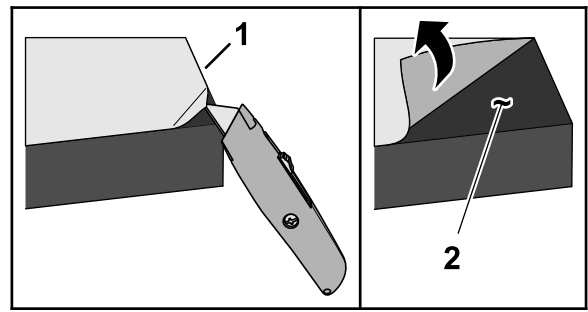

Figure 3
3. Remove the backing film from the pressure sensitive adhesive (PSA) side of the 2 plugs as shown in Figure 3.